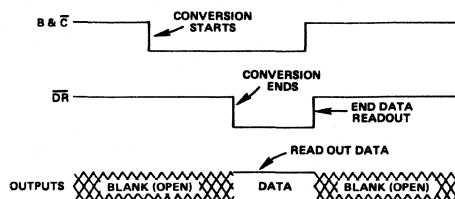

Figure 13. Multiplex Mode
**Multiplex Mode** — In this mode the outputs are blanked except when the device is selected for conversion and readout; this timing shown in Figure 13. A typical AD570 multiplexing application is shown in Figure 16.